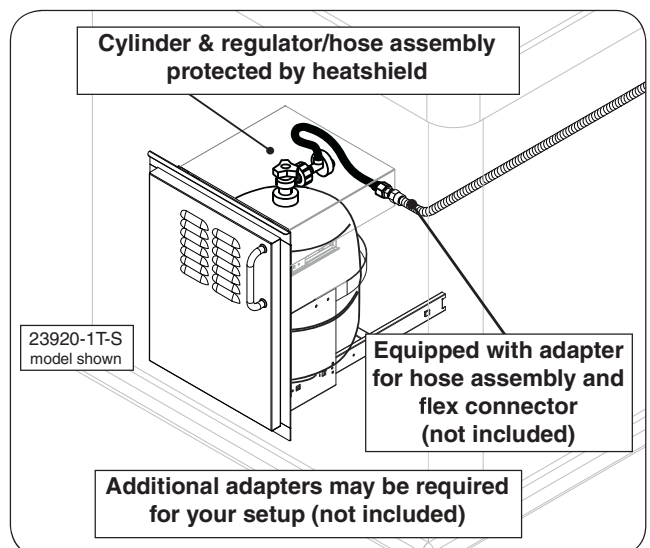

Fig. 13-3 Optional RHP door w/ tank tray
- **RHP offers propane tank door with tank tray models (PN 23920-1T-S or 25914-S) to meet the cylinder install requirements. See Fig. 13-3.**